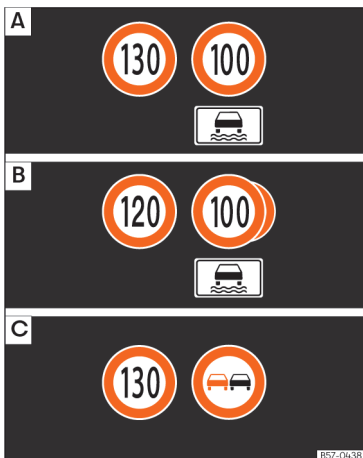

Fig. 13 On the instrument panel display: examples of speed limits or overtaking prohibitions with their respective additional signs.
The road signs detected by the system are displayed on the instrument cluster display **>>> Fig. 13** and, depending on the navigation system fitted in the vehicle, in the infotainment system as well .
After checking and evaluating the information from the camera, the navigation system and the current vehicle data, the system displays up to three current road signs >>> Fig. 13 [B] with their additional signs.
- **First:** The sign that is currently valid for the driver is shown in the left side of the screen. For example, a maximum speed limit of 130 km/h (100 mph) >>> Fig. 13 [A].
- **Third:** Thirdly, a sign prohibiting overtaking is partially displayed. If there is no conditional speed limit and overtaking is prohibited, the latter sign will be displayed in second place >>> Fig. 13 [C].